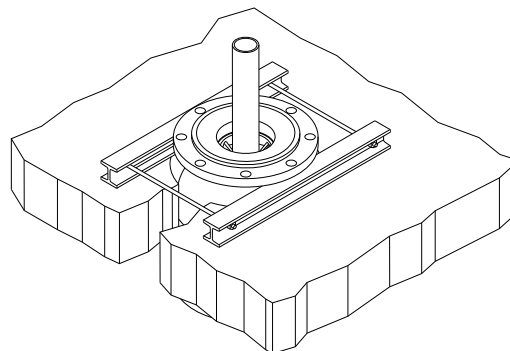

Fig. 8 Bowl assembly supported by a box-type clamp
5. Fasten a box-type clamp or elevator clamp to the bowl assembly, just below the upper flange. See fig. 8.
6. Lower the bowl assembly until it rests securely on the support beams. See fig. 8.